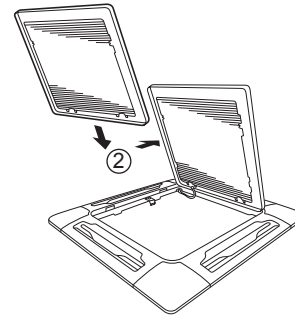

Fig. 7-16
- c) With the air-intake grille opened, remove the grille hinge from the ceiling panel by sliding it in the direction shown by the arrow ②. (Fig. 7-16)